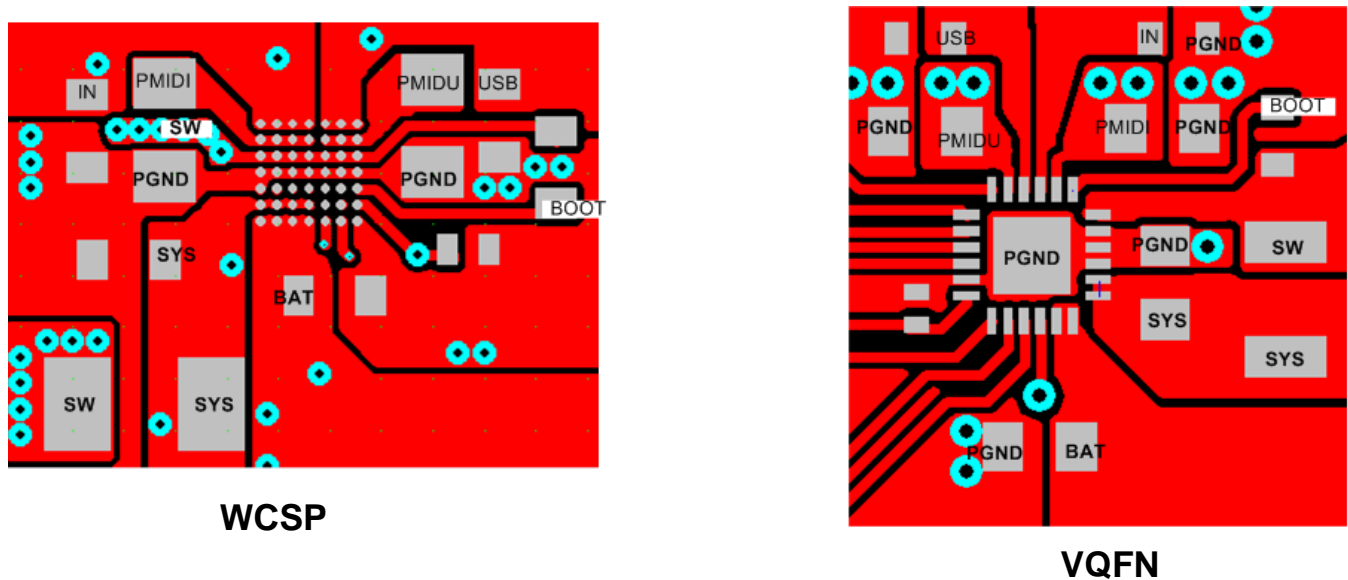

Figure 32. Recommended bq2416x PCB Layout
It is important to pay special attention to the PCB layout. Figure 32 provides a sample layout for the high current paths of the bq2416x. A list of layout guidelines follows.
- Changed From: $V_{WARM} < V_{TS} < V_{HOT}$ To: $V_{WARM} > V_{TS} > V_{HOT}$, and Changed From: $V_{COLD} < V_{TS} < V_{COOL}$ To: $V_{COLD} > V_{TS} > V_{COOL}$ in the External NTC Monitoring (TS) section 22
- Changed Figure 32 35